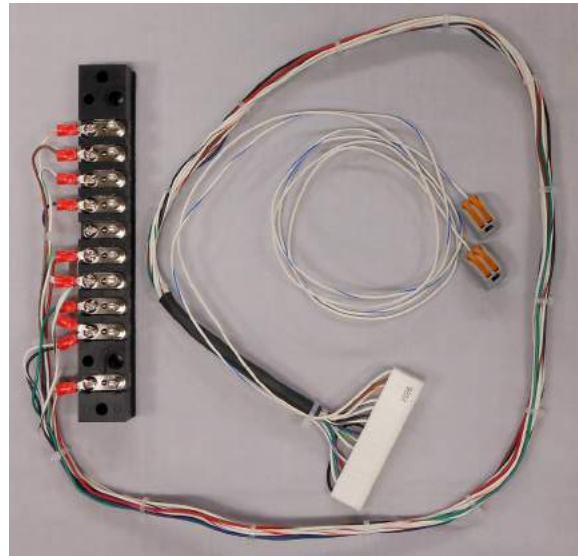
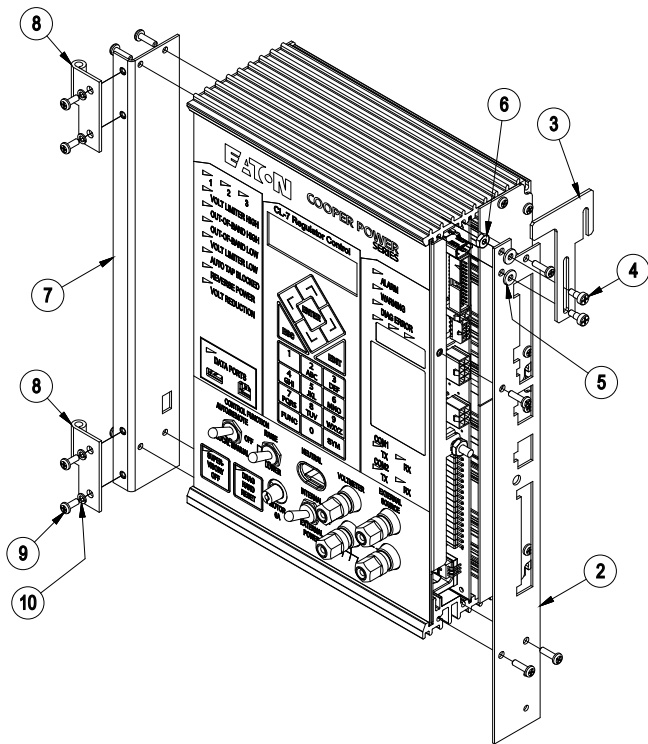

Figure 41. Item 1, Howard Industries wiring harness for the CL-7 control
Figure 43. Installing hinge and latch bracket assemblies
Note: If the Howard Industries style wiring harness (**Figure 41**), hinge bracket and latch bracket (**Figure 43**) have already been installed on the control, proceed to **Step 14**.
Note: The Howard Industries harness may be equipped with two wires colored white and white/blue with two-terminal connectors as shown in **Figure 41**. The wires are for connection to the CL-7 control general purpose inputs (GPIs). The wires can be used for analog voltage reduction or other programmable functionality. See document MN225003EN, *CL-7 Voltage Regulator Control Installation, Operation, and Maintenance Instructions* for more information on the GPIs.
3. Install the left hinge bracket (Item 7) using the screws retained from the last step. See **Figure 43**.
4. Install the hinges (Item 8) using the provided screws and washers, (Items 9 and 10). See **Figure 43**.
8. Install the right faceplate on the side of the control using the screws retained from **Step 5** and the last step. See **Figure 43**.
9. Install the latch (Item 3) on the right faceplate using the shoulder screws (Item 4) and washers (Item 5) as shown in **Figure 43**.